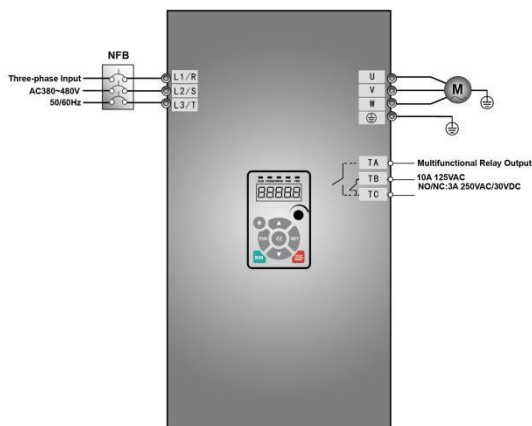

Fig5-7 Wiring Diagram 1
- (1) Connect the wires in accordance with Figure 5-7. After having checked the wiring successfully, switch on the circuit breaker, and power on the inverter.
- (2) Press the “Fun” key, to enter the programming menu.
- (3) Measure the parameters of the motor
- (1) Connect the wires in accordance with Figure 5-7. After having checked the wiring successfully, switch on the circuit breaker, and power on the inverter;
- (3) Study the parameters of the motor: the operation process is the same as that of 5.3.1.
- (4) Set functional parameters of the inverter:
(4) Set functional parameters of the inverter: